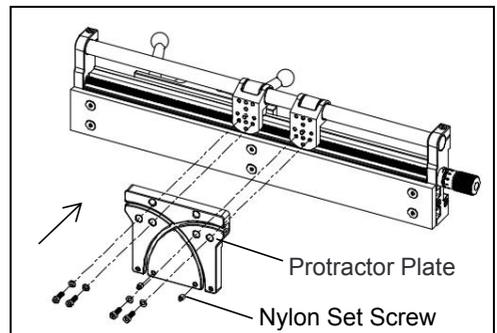

Fig. 11
- As shown in Fig. 11, install the Protractor Plate to the fence sliders. Use the fasteners from the stops to secure the protractor plate in place. You'll need to space the sliders at an appropriate distance to match up the holes with the protractor plate.